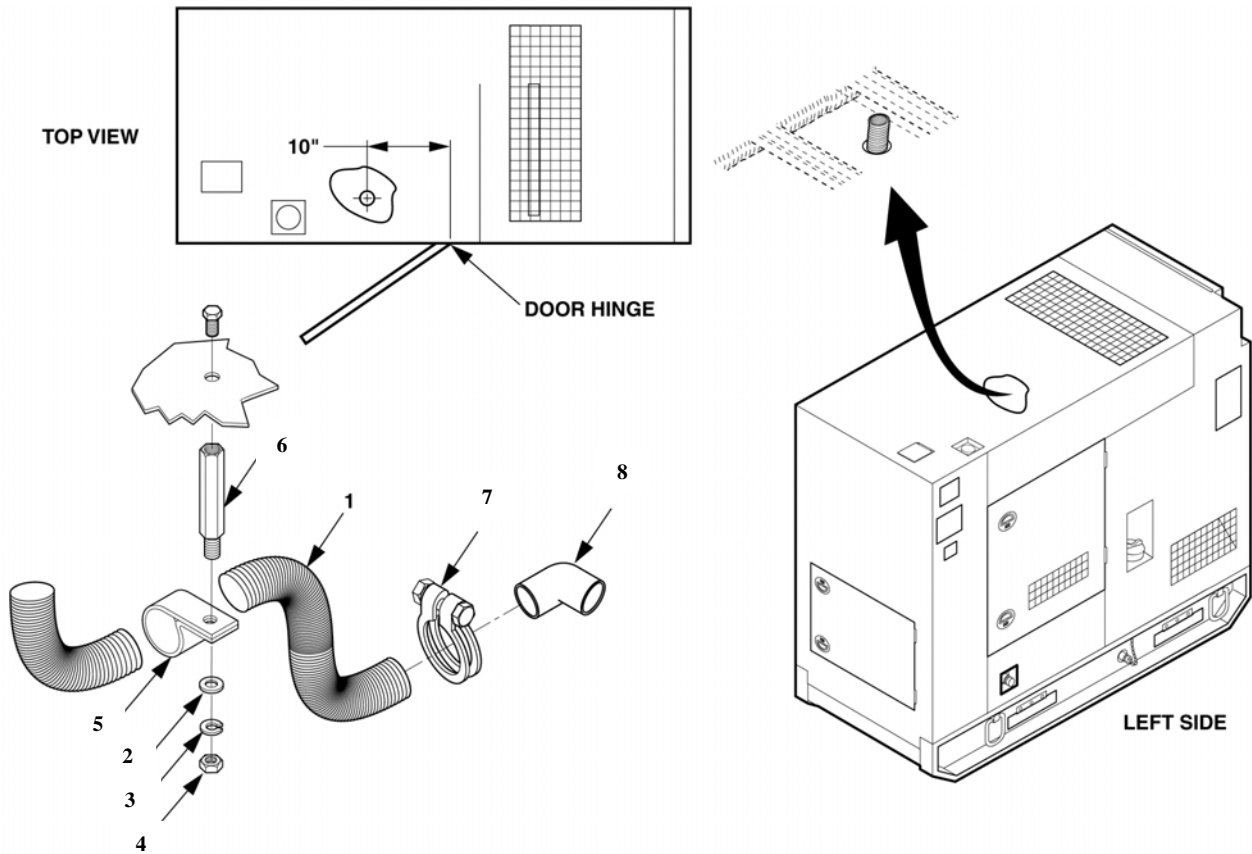

Figure 5-2. Exhaust Hose Assembly
4. Approximately 10" from inside of left door hinge, Figure 5-2, drill 1 7/16" diameter hole in top left side of bulkhead housing.
6. Attach one end of exhaust hose (1), to exhaust elbow (8) with clamp (7). Attach it to exhaust port on heater. Apply 2 thick beads of RTV around exhaust port of heater and attach exhaust elbow to heater. Move elbow in a position that doesn't interfere with anything in the route to the hole drilled in step 4.
7. Route hose through hole drilled in step 4. Install clamp (5) and use sealant provided in kit around hose. Open to prevent movement. Attach at middle of exhaust hose (1), to the top of the bulkhead at first screw closest to the heater. Secure using spacer (6), nut (4), lock washer (3), and washer (2).